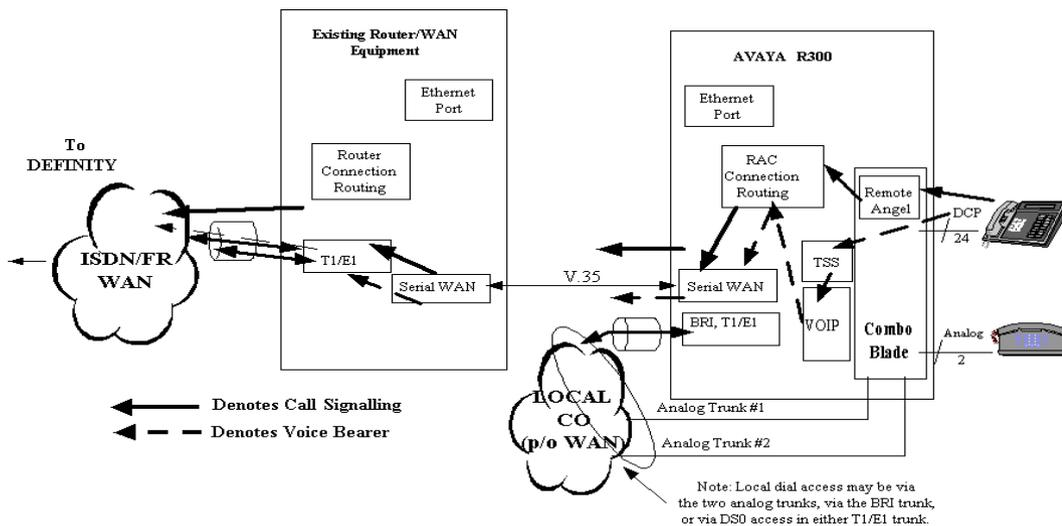

Figure 7. Avaya R300 Subtending to Existing WAN Access Concentrator (Serial WAN Connected to Router)
- Connect it via its Serial WAN port (V.35) over to the Serial input of a WAN router (see Figure 7 on page 10)